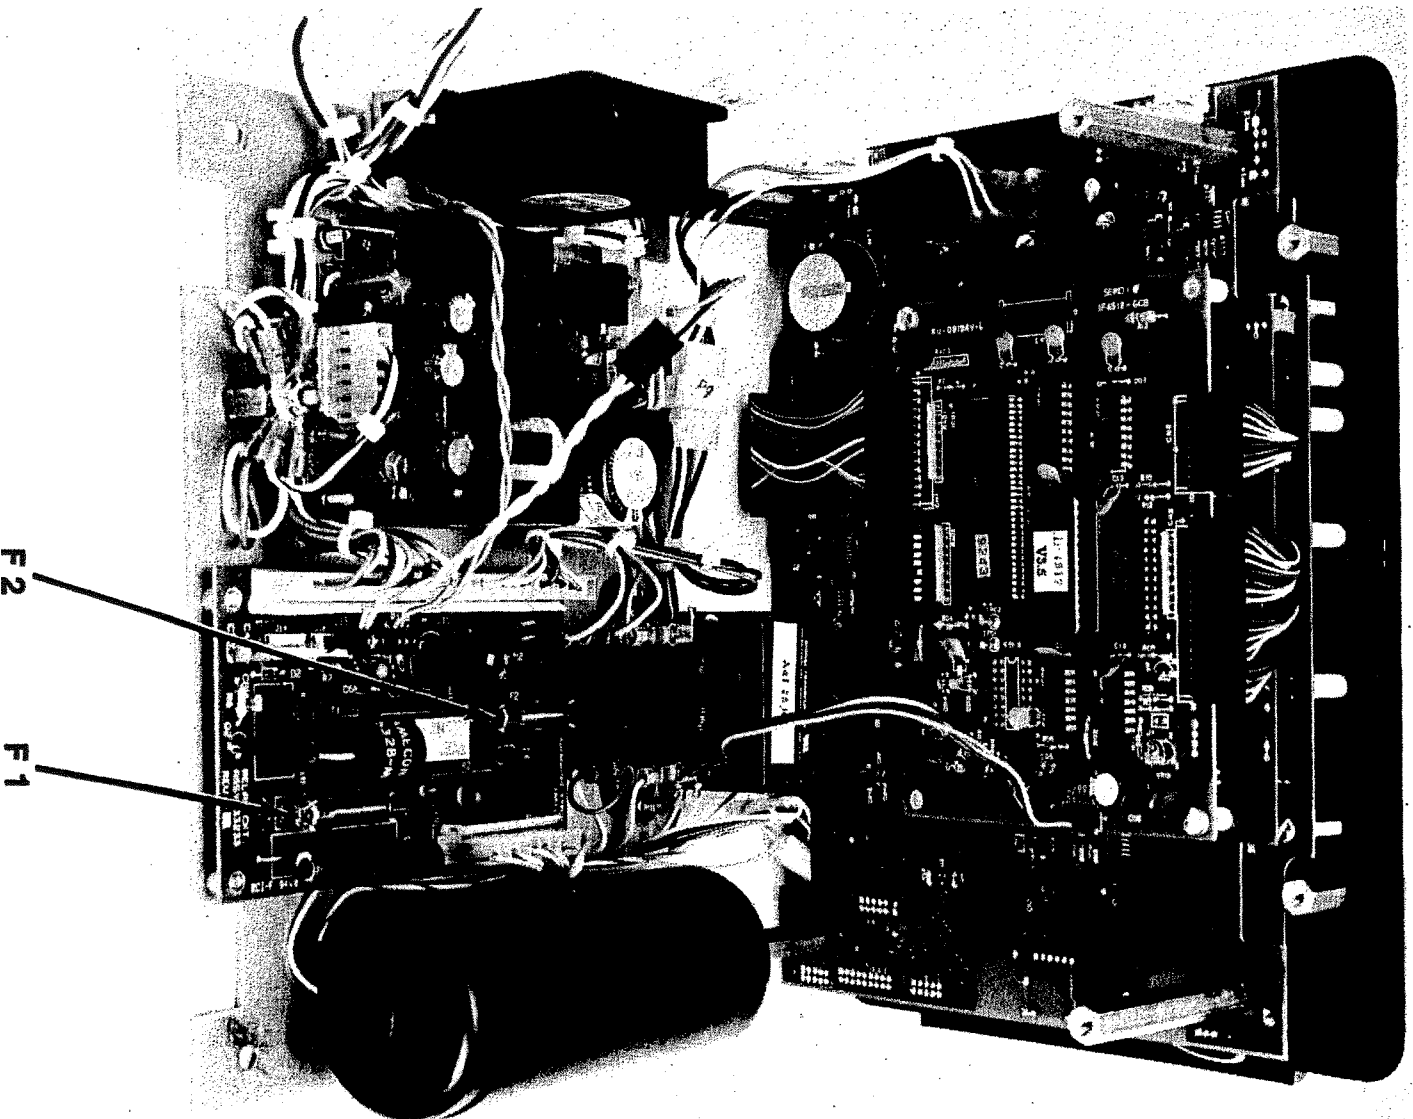

Figure 12: Internal View Showing Fuse Location
A secondary side fuse, rated 2 A at 250 V ac, is installed to protect the operator from possible shock and to protect the MBITE circuitry in the event of catastrophic component failure. This fuse is mounted internally on the bottom base panel (see Fig. 12).
5. Remove four screws from the standoffs on the chassis baseplate and carefully raise the right side of the instrument (as viewed in Fig. 12) approximately 1-1/2 in., being careful not to dislodge internal wiring.
6. Find the two fuses, located on the bottom base plate mounted relay printed circuit board, in a fuse holder (Fig. 12).